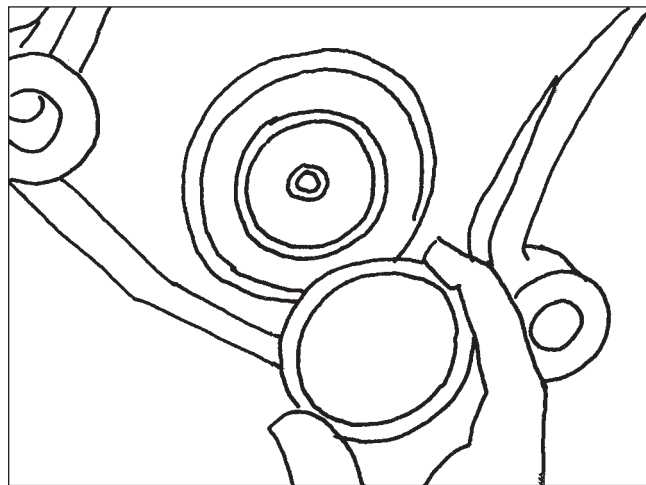

**Figure 32**
16. Install the rubber boot over the sector shaft. Pack grease under the lip of the boot before installation (**Figure 32**).